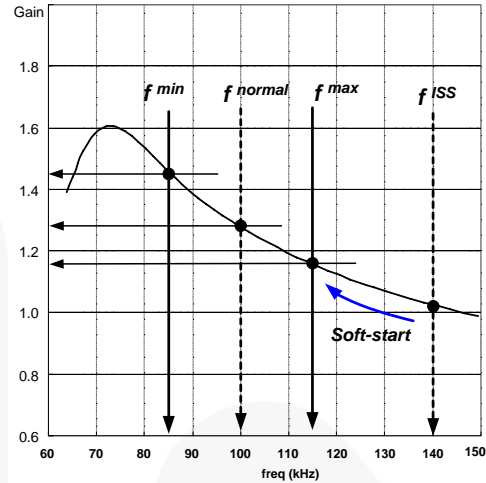
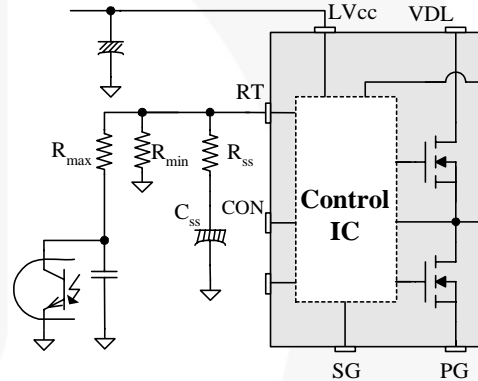
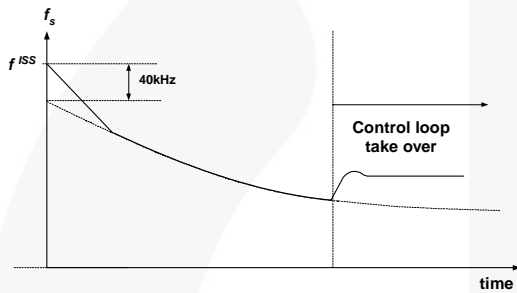

Figure 18. Resonant Converter Typical Gain Curve
Figure 19. Frequency Control Circuit
Figure 20. Frequency Sweeping of Soft-start
3. Frequency Setting: Figure 18 shows the typical voltage gain curve of a resonant converter, where the gain is inversely proportional to the switching frequency in the ZVS region. The output voltage can be regulated by modulating the switching frequency. Figure 19 shows the typical circuit configuration for R_T pin, where the opto-coupler transistor is connected to the R_T pin to modulate the switching frequency.
in Figure 19. FSFR-series also has an internal soft-start for 3ms to reduce the current overshoot during the initial cycles, which adds 40kHz to the initial frequency of the external soft-start circuit, as shown in Figure 20. The initial frequency of the soft-start is given as: